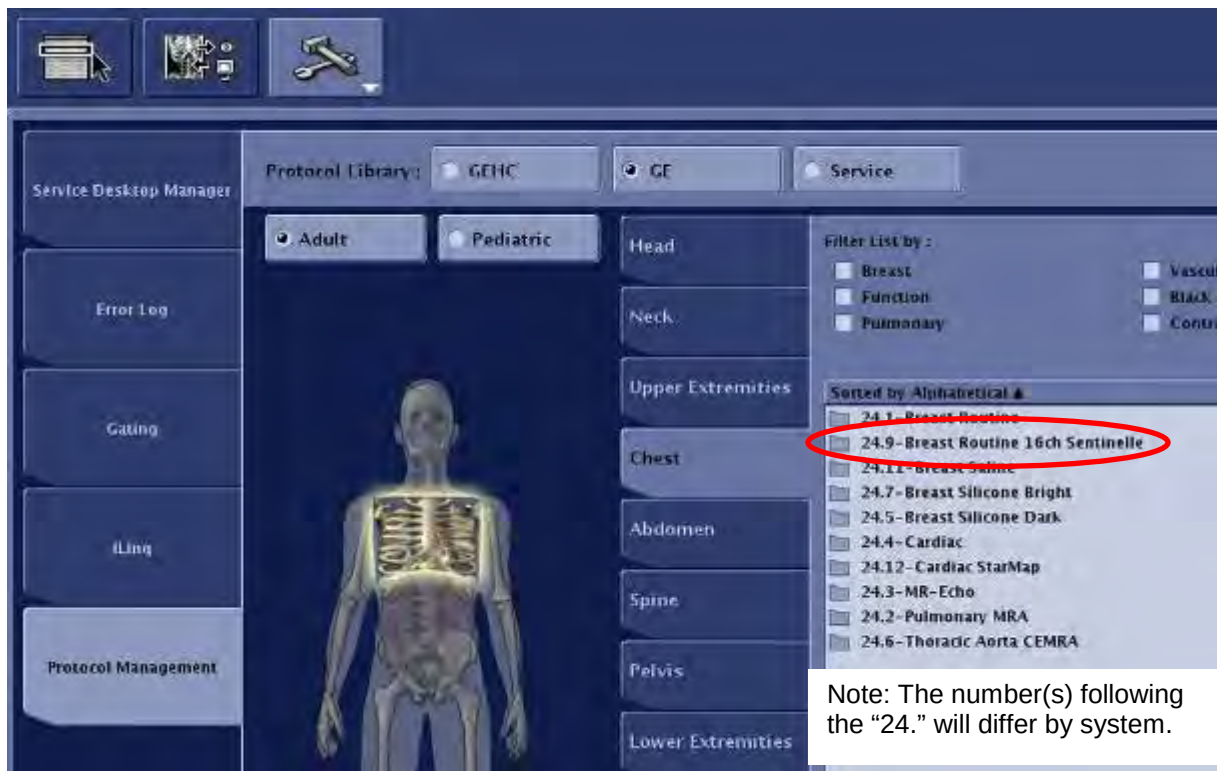

Figure 57: Confirmation of 16ch Sentinelle coil protocols installed
- The 16Ch Sentinelle table also has one protocol that must be on the system. Open the Protocol Management tab. Confirm the protocol installed by viewing the "Chest" protocols under the GE Protocol Library. The protocol titled "Breast Routine 16Ch Sentinelle" must be present as shown in Figure 57.